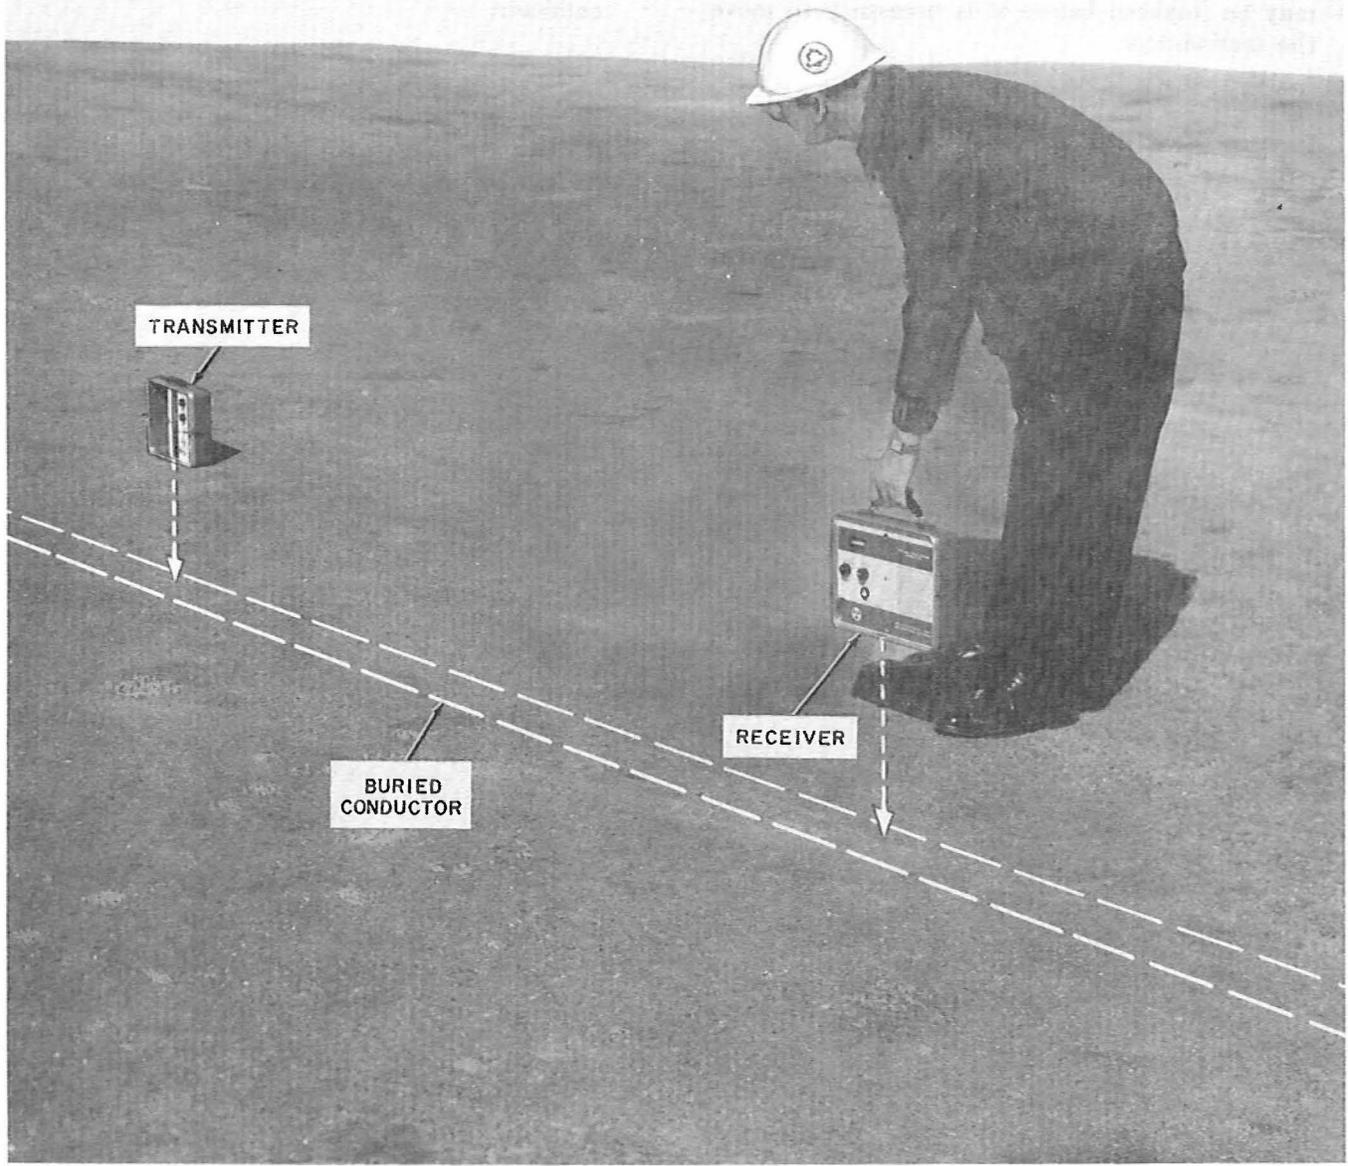

Fig. 5—Inductive Method of Operation—OFF Handle
5.04 In the *off handle* method of operation the transmitter and receiver are operated as separate units. The maximum energy is induced in the conductor when the transmitter is parallel and vertical to the conductor to be located (Fig. 5). The maximum response in the receiver is obtained when the receiver is parallel and vertical to the conductor to be located; the minimum response is obtained when the receiver is horizontal over the conductor to be located.
(a) Place the transmitter unit on the ground directly over the conductor to be traced (Fig. 5). To ensure that the conductor to be traced is located and not some foreign or abandoned structure, the transmitter should be placed at a point where the conductor can be visually identified. When it is not possible to visually identify the conductor to be traced, it is desirable to expose the plant by digging. This will allow the transmitter to be correctly coupled to the conductor to be traced. The transmitter should be placed on edge with the handle up so its long dimension is parallel to the direction of the conductor.
(b) Carry the receiver so its long dimension is parallel to the assumed direction of the buried conductor (Fig. 5). In this manner the path of the buried conductor can be followed by keeping the audible tone at a maximum. Under normal conditions, up to 500 feet of conductor may be followed before it is necessary to move the transmitter.